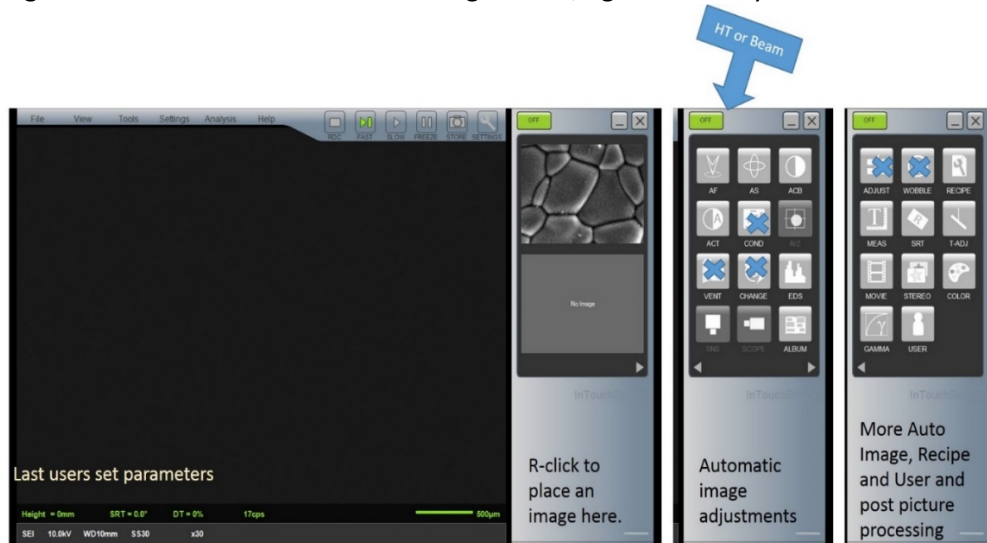

Figure 8: Software user interface
1. The JEOL software should always be on and open. There are three main sections (Figure 8). Navigate between the three sections using the left/right arrow keys in the center.
7. There are a number of automatic features in the software that are not used since we don't have a motorized stage. Some of the operations selections on the main page are not used because they cause unexpected behavior – using them runs the risk of having the beam turn on or the chamber venting when the user is finished. (see figure 8, crossed out buttons).